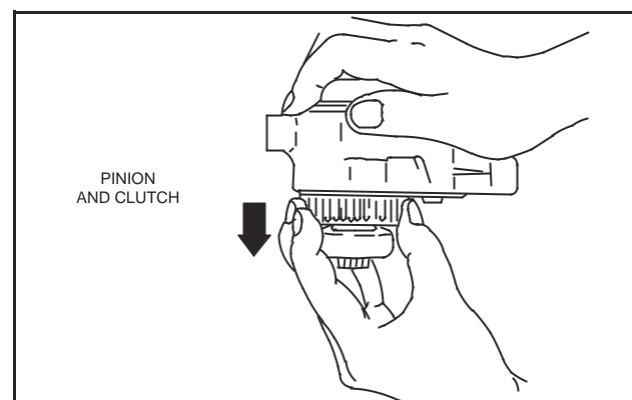

Fig. 55 – Removing Pinion And Clutch
1. Remove drive gear from bearing. Remove bearing retainer and five roller bearings, Fig. 55.